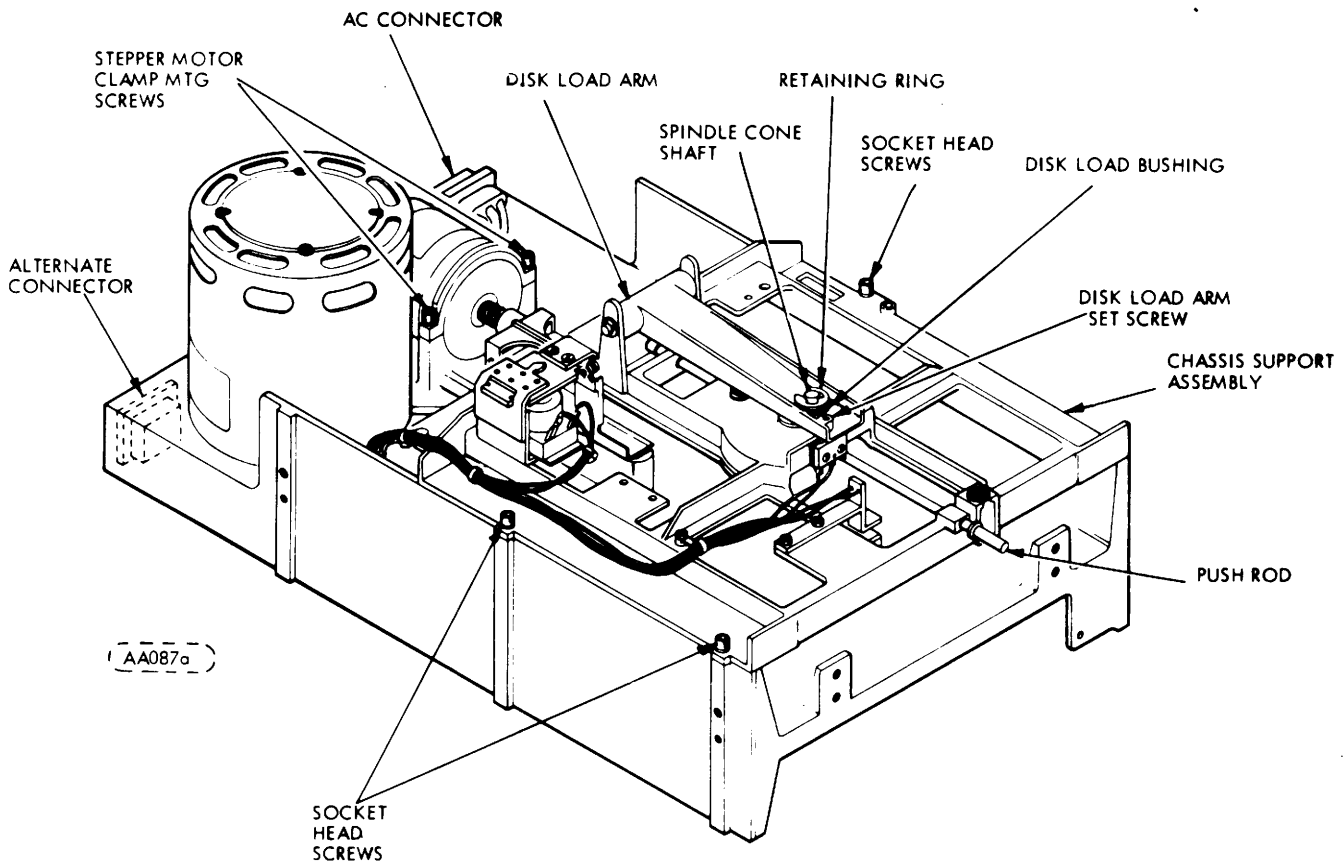

Figure 6-16. Chassis Base Assembly
- g. If not in alignment, loosen the stepper motor clamp mounting screws to where a gap exists between the clamp and casting (See Figure 6-16) and slowly rotate the stepper motor to adjust the amplitude until the amplitude of both lobes is the same, that is, the difference between the bottoms of both lobes is less than 5mV.
This procedure must be performed whenever chassis support (Figure 6-16) is removed and replaced.
- a. With front panel door closed, verify that a gap exists between the retaining ring and the disk load bushing of approximately 0.030 inch (refer to Figure 6-16). Perform step b if out of adjustment.
- b. Adjust disk load arm set screw (Figure 6-16) until gap is approximately 0.030 inch, with door closed.
- b. With door closed, adjust set-screw at end of disk load arm (Figure 6-16) while holding door closed against metal stop. Adjust set-screw until micro-switch is almost adjusted flush to top of switch case. This ensures that as the nylon tips on the push-rod wears down, the switch will still close.
- a. Loosen chassis support assembly (Figure 6-16).
- g. Secure socket lead screws (Figure 6-16) and again recheck steps c through e.
- c. Remove four (4) socket head screws securing chassis support (Figure 6-16).
- d. Slide chassis support back far enough to clear push rod (Figure 6-16) of front panel and lift support clear of chassis.